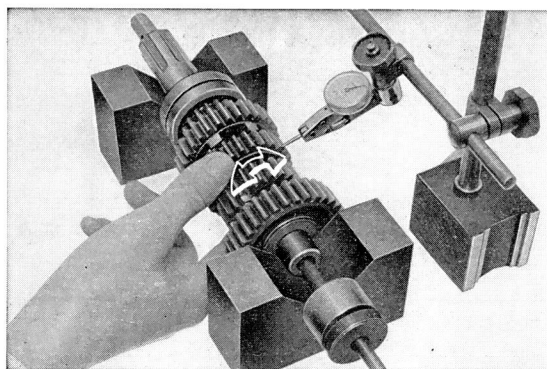

Fig. 3.111 Measuring spline clearance
① Main shaft outside diameter
2. Spline clearances M to M 2-3, C to C 4 and C 5 (Fig. 3.111)